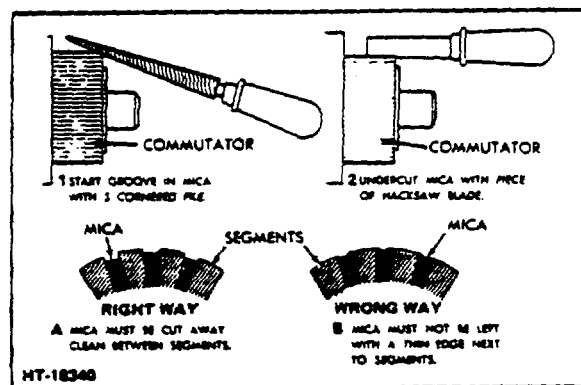

Figure 7-3. Undercutting Mica
- Undercut mica between bars to a depth not exceeding .030". Undercut must be full width of mica and flat at bottom. After undercutting, clean out slots to remove any dirt and copper dust. (See Figure 7-3.)